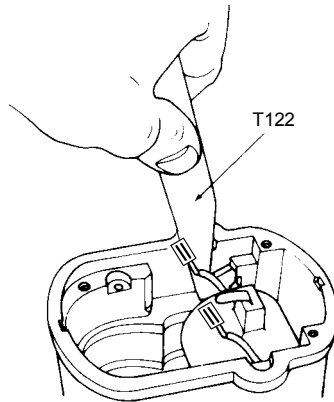

Figure 7.12
- F. Place rotor (10) and T121 bearing puller on T152 spacer.
- G. Press rotor shaft (10) and remove drive end bearing (9).
- H. Discard bearing (9).
7.12 REMOVE COIL (21)
- A. Inspect coil (21) per Section 8, paragraph 8.6. Remove only as required.
- B. Using T122 coil wedge extractor or 6 inch adjustable wrench, pry out coil wedges (22) and remove coil (21). (See Figure 7.12).